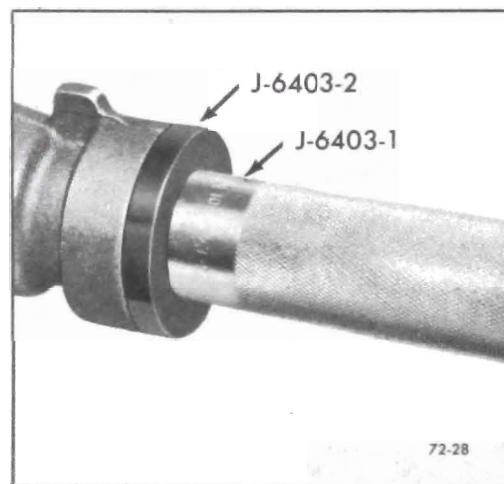

Figure 72-28 - Installing
a. Install J-6403-2 onto J-6403-1. See Figure 72-28.